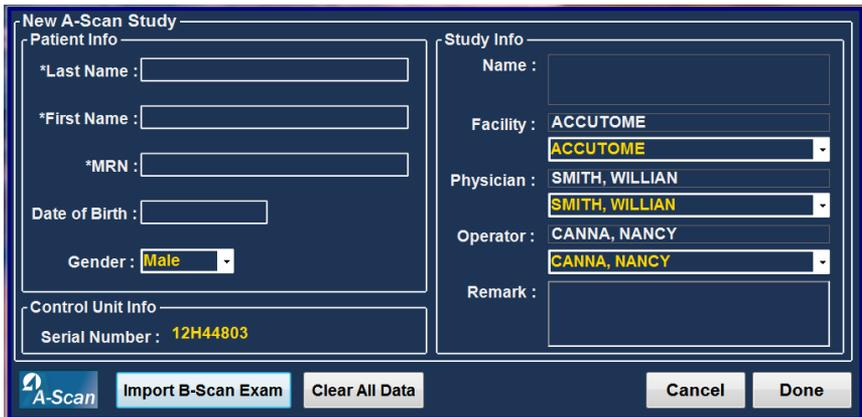

Figure 3.12 - New A-scan Study Screen
After you execute “New” from the Accutome A-Scan Plus Connect Exams screen, the New A-Scan Study screen will launch as shown in Figure 3.12. The pre-filled information fields are from the setup defaults.
1. When you start a new exam the Accutome A-Scan Plus Connect will launch the New A-scan Study Screen shown in Figure 3.12 and will clear all patient info fields.